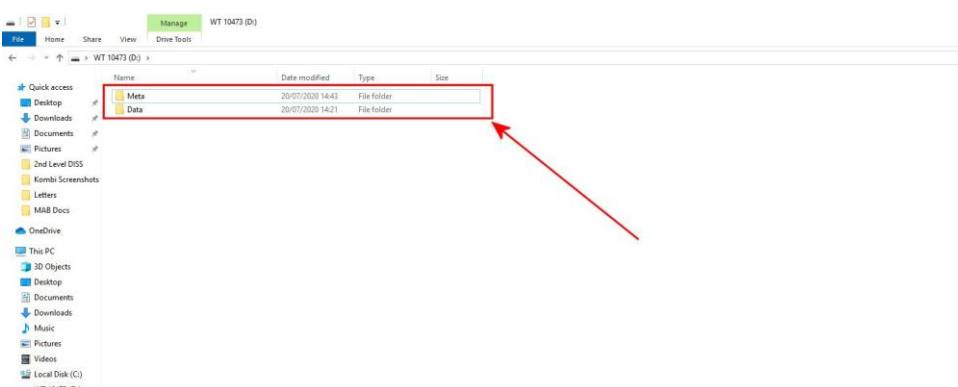

Figure 7
7) Delete the ZIP file (only) from the USB stick leaving the files shown in Figure 7